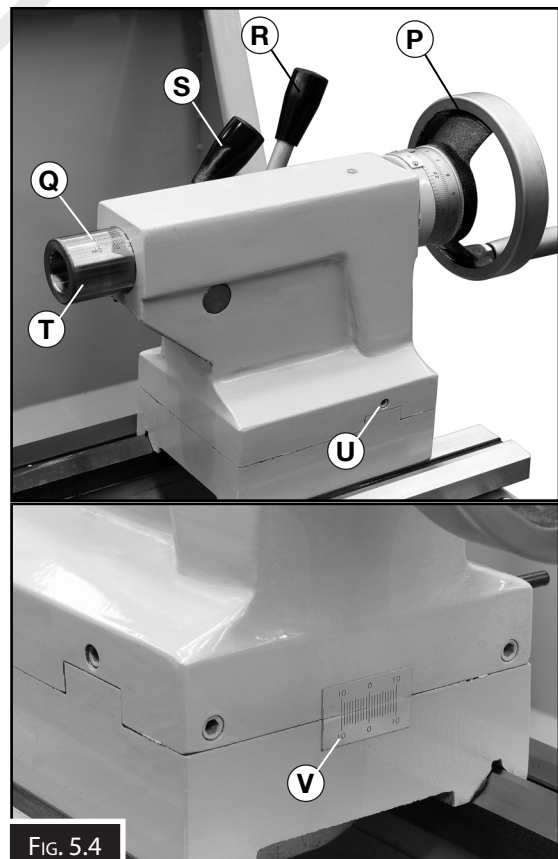
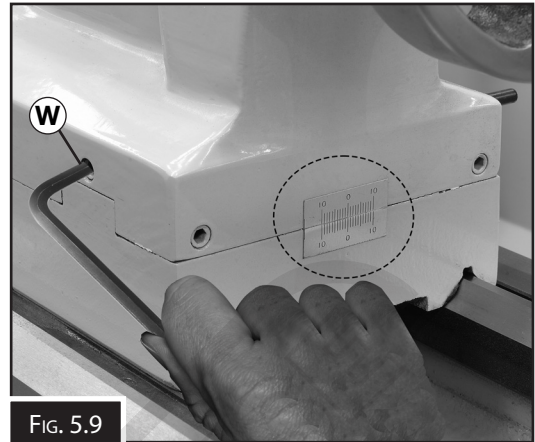

FIG. 5.4
FIG. 5.9
TAILSTOCK (FIG. 5.4)
Custom arbors and tapers can also be cut on your lathe by using the offset tailstock adjustment screws (W in Fig. 5.9)
Note: The marks on the indicator on the end of the tailstock (Fig. 5.4) are only a guide. For a precise offset, use a dial indicator to check while adjusting the screws that are located on both sides of the tailstock. (W in Fig. 5.9)
7. Use a micrometer to measure both ends of the workpiece. If the test stock is larger at the tailstock end, then adjust the tailstock toward the front of the lathe 1/2 of the difference. (See "U" in Fig. 5.4 for adjustment screws)